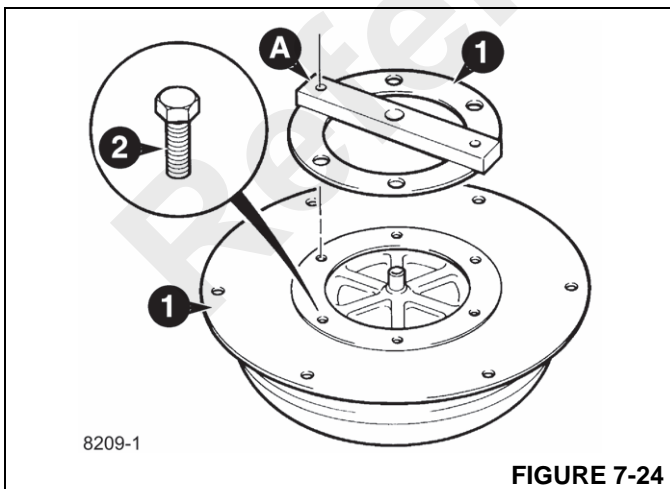

FIGURE 7-24
2. Place the torque converter alignment tool **A** (Figure 7-24) over the torque converter spigot, making sure that the tool locates in two of the converter bolt holes as shown. It is important to note that the converter drive tube must be protected against damage or contamination at all times.